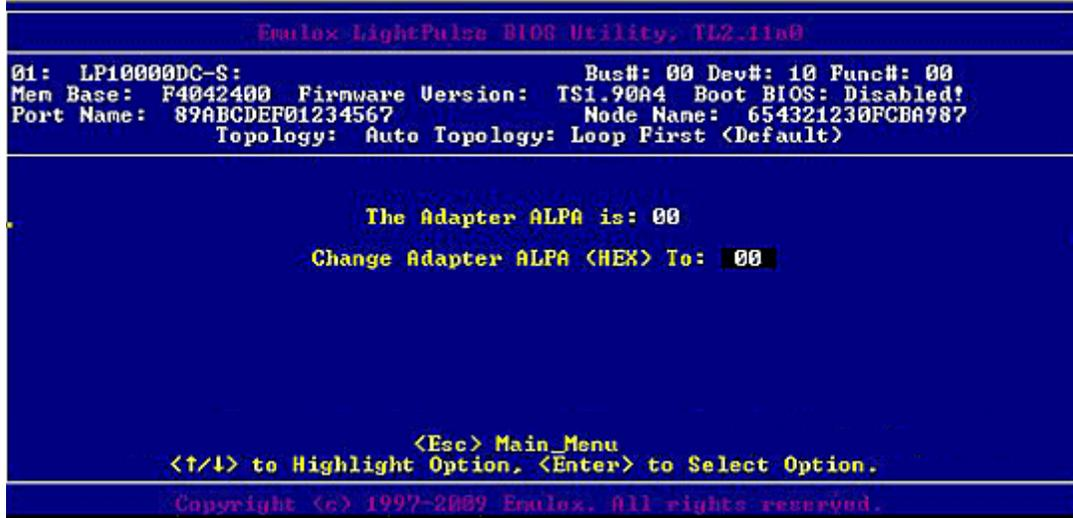

Figure 10: Change Default ALPA screen
2. Select **Change Default ALPA of this adapter**. Information similar to Figure 10 is displayed.